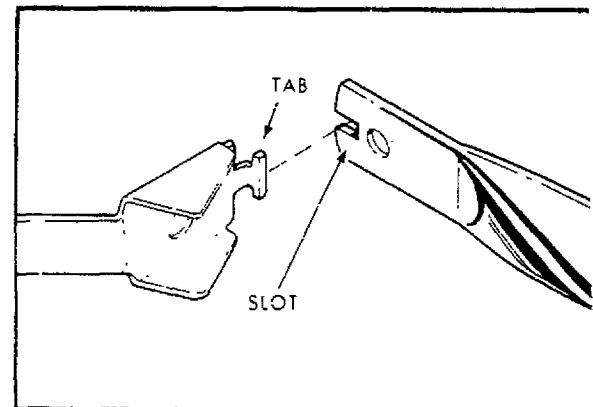

FIG. 4
- d. Turn handle over, position handle levers in place (See Fig. 4).